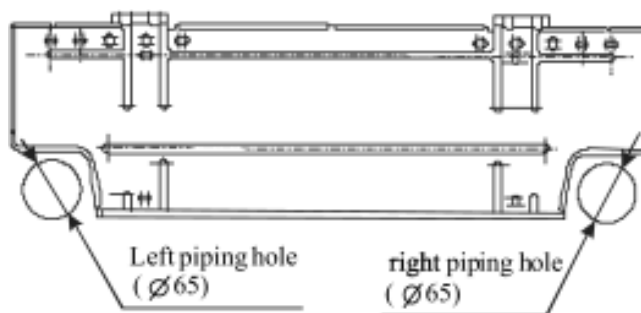

Figure 2
2. Make the piping hole ($\phi 65$) in the wall at a slight downward slant to the outdoor side. The center of the hole should be determined refer to Figure 2.